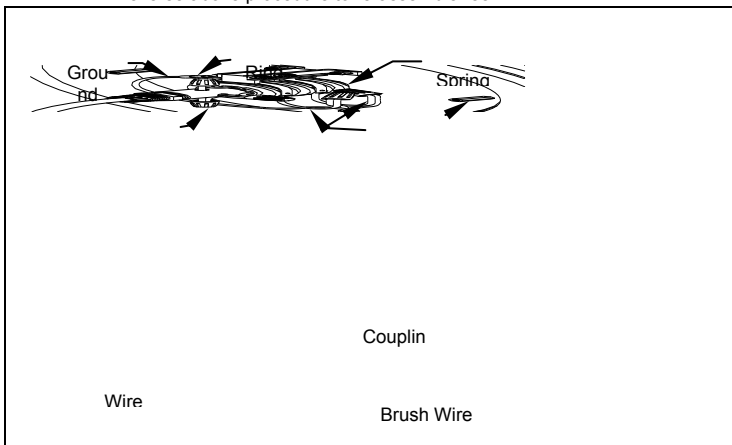

Fig 5.0 (PC13, PC19 & PC24 Models)
- Refer to figures 5.0 or 6.0, depending on PC model, to become familiar with components before performing the following steps.
- Remove input strain relief cap. Remove cover. See Figures 5.0 or 6.0 depending on model.